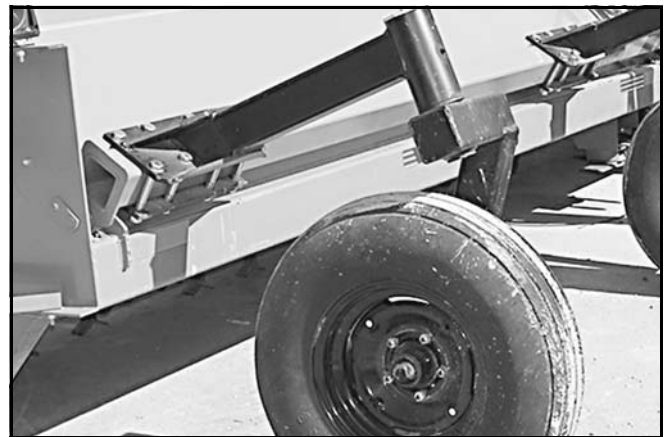

Figure 33. Positioning Wheel Assembly
8. Slide assembly along the frame tube to new position (see Figure 33).